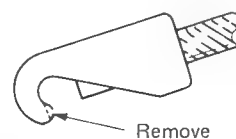

Figure 2
- a. Use a grinder to remove part of hook as shown (Figure 2).